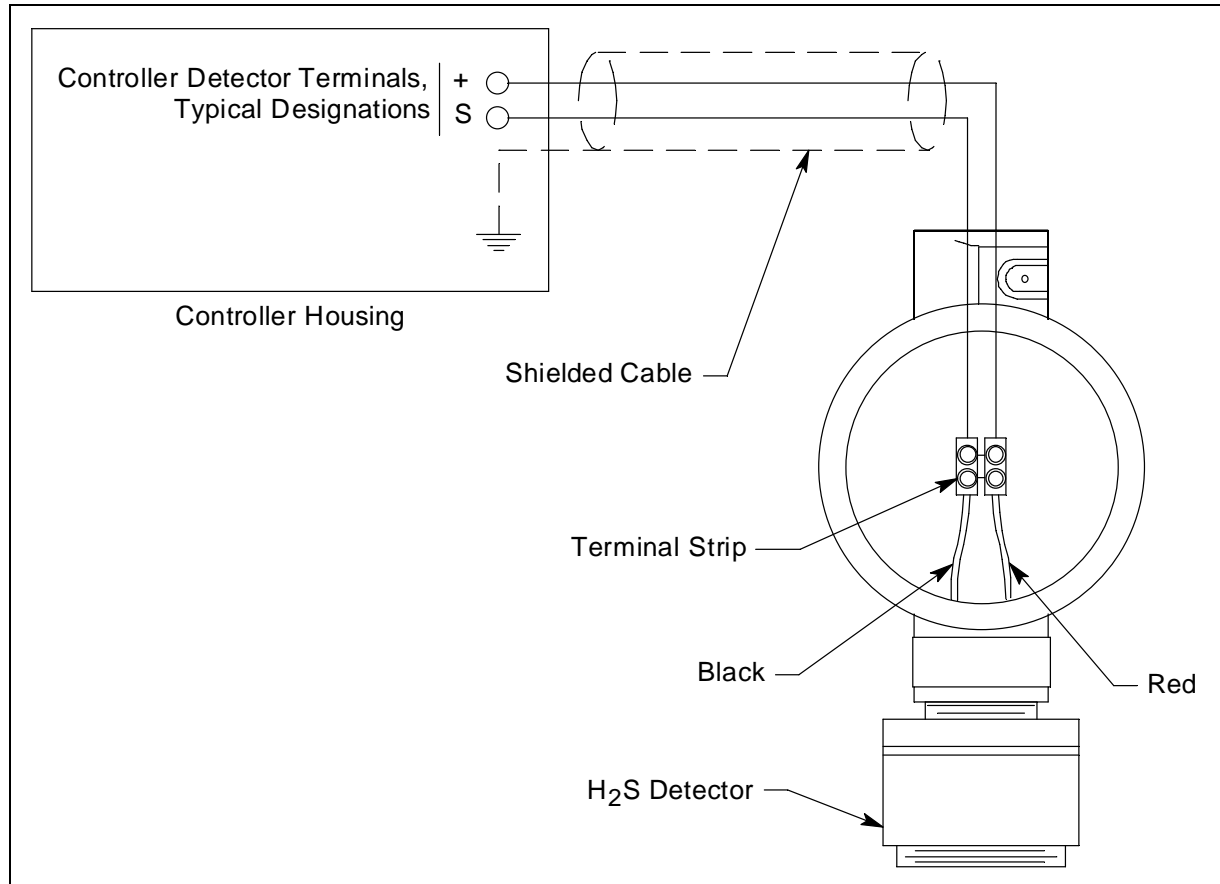

Figure 4: Wiring the H₂S Detector to a Controller
If the detector is mounted directly to a controller, it is normally factory wired. Confirm that the detector's black and red wires are connected to the appropriate controller detector terminals and skip to "Start Up" on page 10. See Figure 4, the controller operator's manual, and the controller's detector head specification sheet for the 65-2495RK detector for the wiring connections.
7. If the detector is installed directly on a controller, connect the detector leads to the appropriate detector terminal strip terminals. See Figure 4 on page 10 for wiring to a generic controller. See the controller operator's manual and the controller's detector head specification sheet for the 65-2495RK detector for wiring specific to your controller.
If the detector is installed remotely from a controller in a junction box, connect the detector leads to the terminal block the same way the old detector was wired (see Figure 4 on page 10). See the controller operator's manual and the controller's detector head specification sheet for the 65-2498RK detector to verify the connections to the controller are correct.